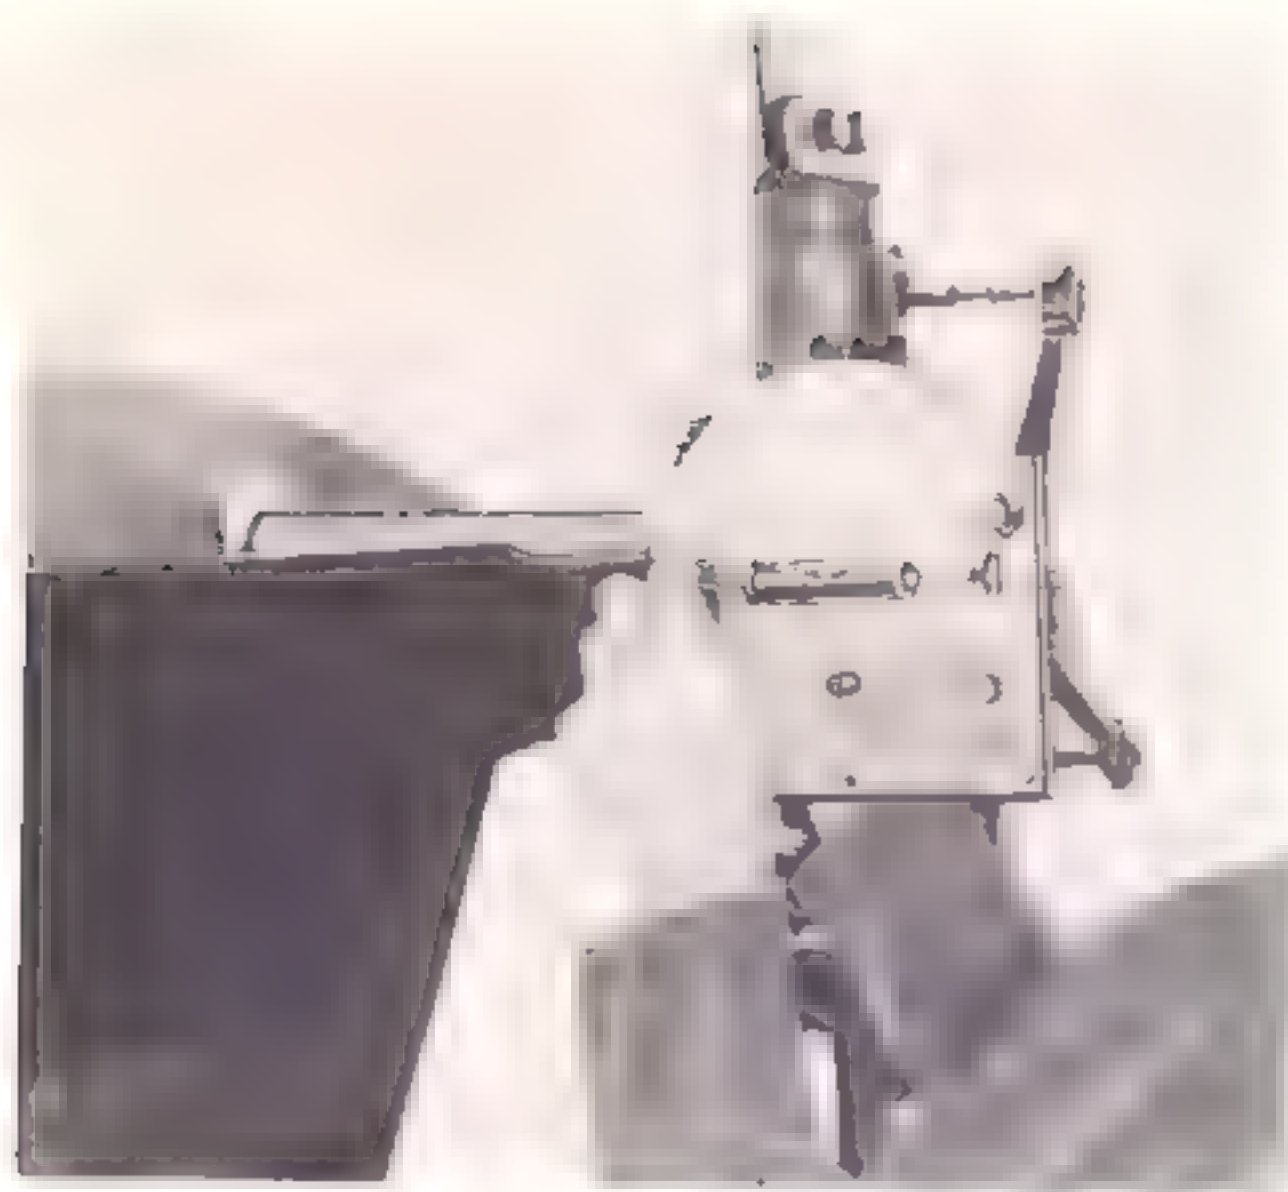
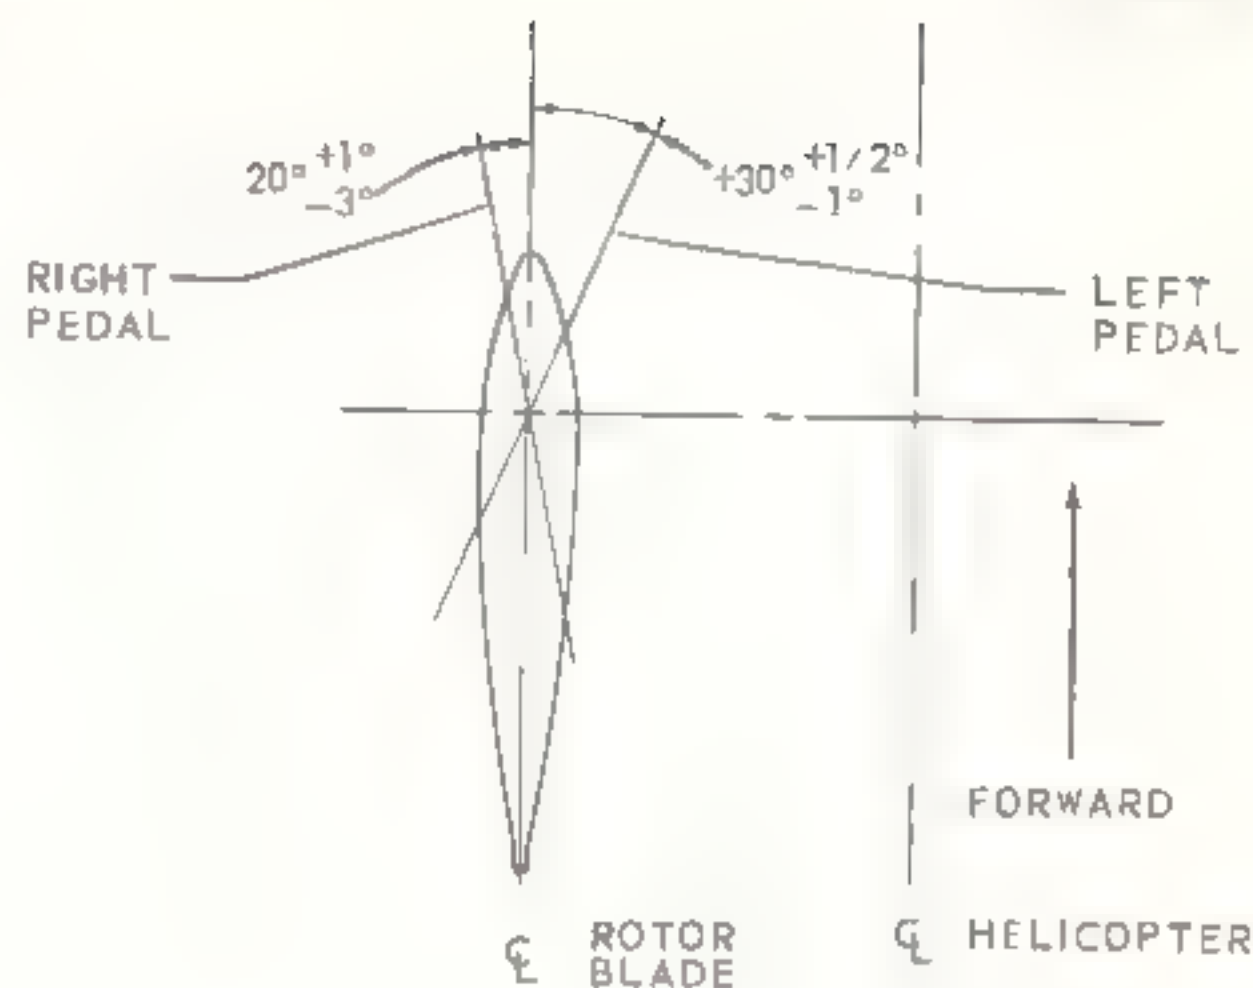

Figure 8-12. Measuring pitch on tail rotor blade
Figure 8-15. Tail rotor rigging angle (with counterweight)
(4) Move left rudder pedal fully forward until power piston bottoms internally in tail rotor servo. Check that mechanical stops are not hitting at this time.
(5) Rotate tail rotor until one blade is pointing forward. Place a level on leading edge and insure that leading edge is level.
(6) Place protractor on flat of sleeve (figure 8-12) just outboard of two blade attaching bolts. Measure
(14) Move left rudder pedal fully forward until power piston bottoms internally in tail rotor servo. Check that mechanical stops are not hitting at this time.
(15) Rotate tail rotor until one blade is pointing forward. Place a level on leading edge and insure that leading edge is level.
(16) Place protractor on flat of blade sleeve (figure 8-12) just outboard of two blade attaching bolts. Measure blade angle for a reading of $+30 +1/2 -1$ degrees. (See figure 8-15.)
(18) Repeat procedures outlined in steps (14) through (17) above for each of remaining blades.
(19) Move right rudder pedal fully forward until power piston bottoms internally in tail rotor servo. Check that mechanical stops are not hitting at this time.
(20) Rotate tail rotor until one blade is pointing forward. Place a level on leading edge and insure that leading edge is level.
(21) Place protractor on flat of blade sleeve (figure 8-12) just outboard of two blade attaching bolts. Measure blade angle for a reading of $-20 +1 -3$ degrees. (See figure 8-15.)
(22) If necessary, adjust tail rotor servo adjustable stop to obtain proper blade angle.